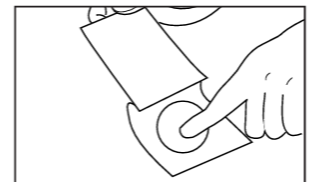

FIGURE 9
- b. Let the circular gel portion of the top film contact the surface being tested (your smart phone screen). (fig. 9)